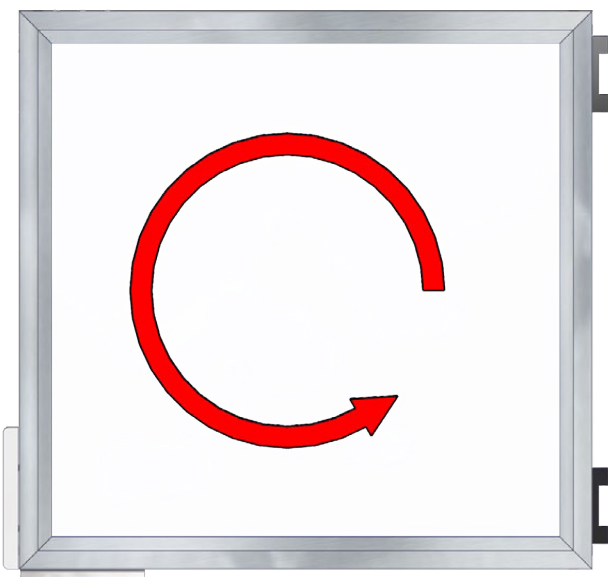
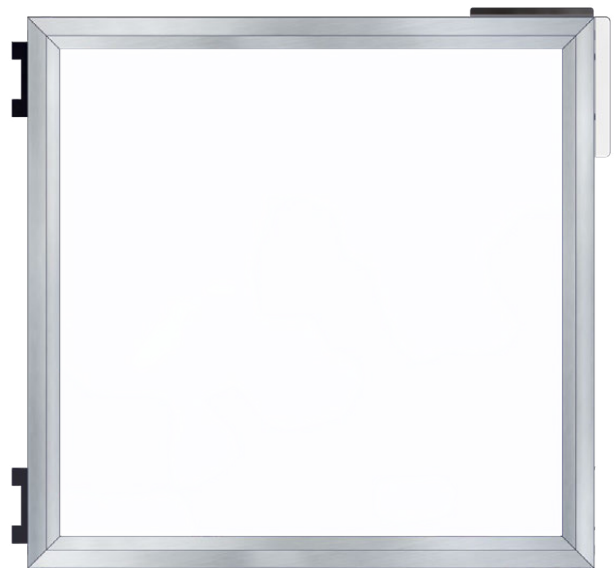

Fig. 52: Rotate Modified Door
Fig. 53: Door Rotated to New Installation Position
- With the door handle and the Cam Lock Plate in their new positions, rotate the door 180° (Fig. 52). Figure 53 shows its orientation when reinstalling the door on its new hinge position.